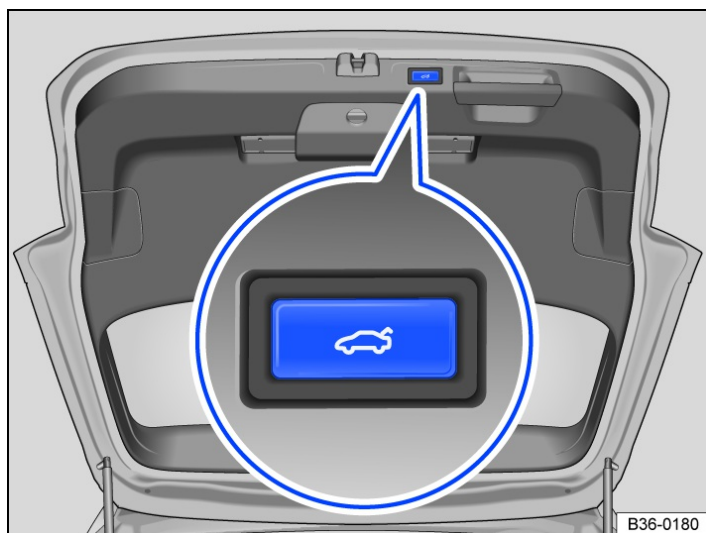

Fig. 1 In the open tailgate: button for closing boot lid electrically.
- Press the button in the open boot lid → Fig. 1.